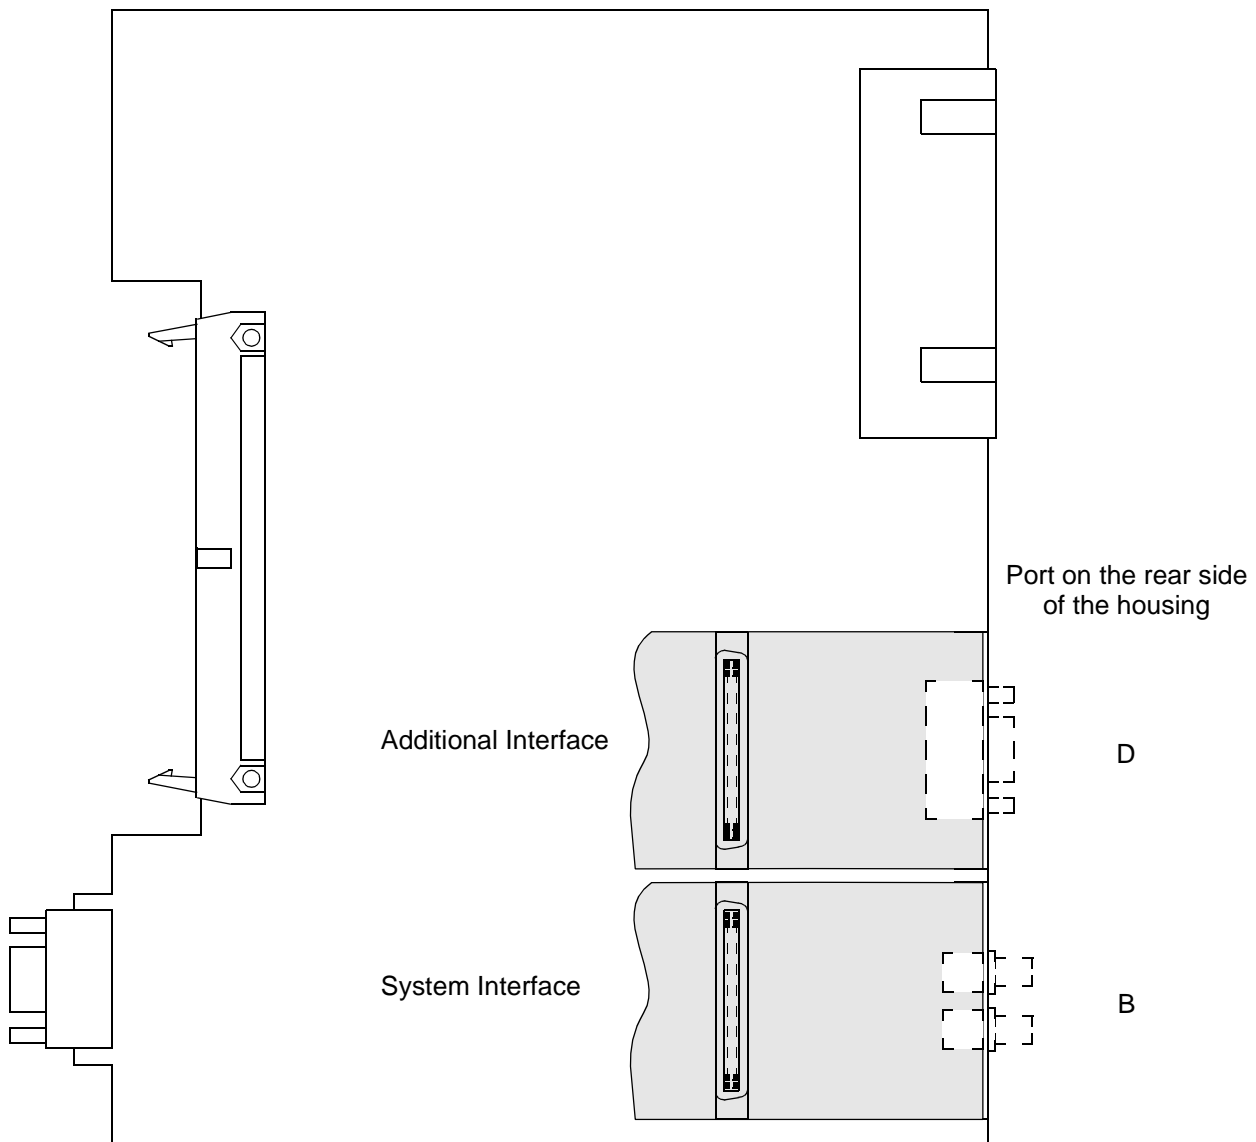
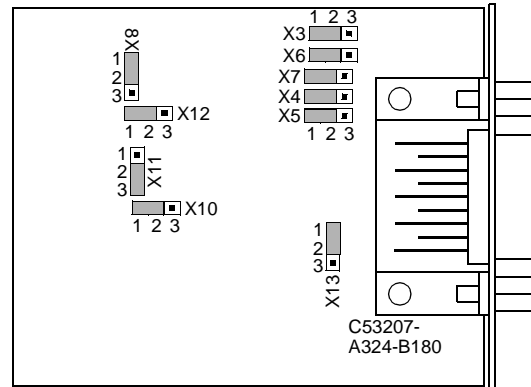

Figure 3-15 Processor board C-CPU-2 with interface modules
Figure 3-16 Location of the jumpers on interface module for RS232
The interface modules are dependent on the ordered version. They are located on the processor board C-CPU-2 (❶ in Figure 3-8 or 3-9). Figure 3-15 shows the CPU board with the location of the interface modules.
Figure 3-15 shows the PCB of the C-CPU-2 with the location of the modules. Figure 3-16 shows how jumpers of interface RS232 are located on the interface module.
Note that devices in surface mounted housing with optical fibre connection have an electrical RS232 module on the CPU board (see *Note* above). For this application type, the jumpers X12 and X13 on the RS232 module are plugged in position 2–3, in contrast to the illustration in Figure 3-16.
The interface RS485 can be transformed into interface RS232 according to Figure 3-16.
The terminating resistors are connected to the corresponding interface module that is mounted to the processor input/output board C-CPU. Figure 3-15 shows the printed circuit board of the C-CPU and the allocation of the modules.